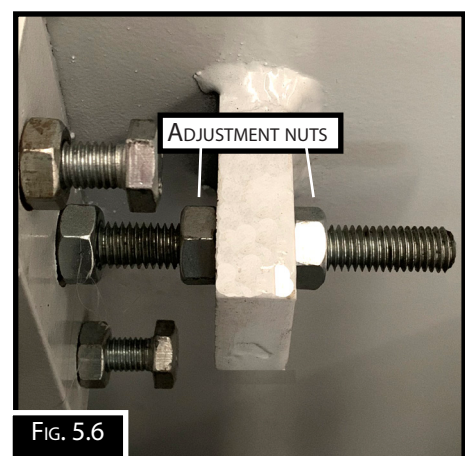

FIG. 5.6
4. Using a feeler gauge between the blades adjust the gap using the nuts on the centre stud inside the machine on either end of the side plates.(Fig. 5.6)